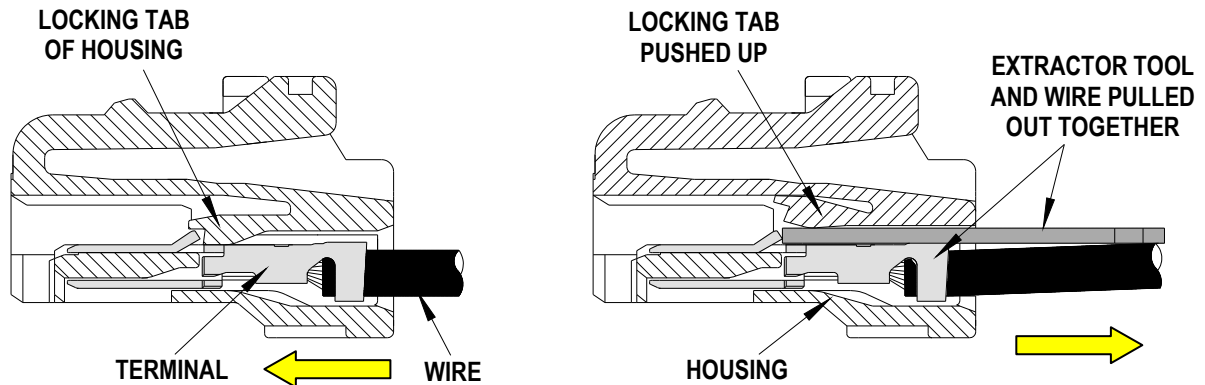

Figure 6
2. Insert the Extractor Tool into the slot above the terminal in the connector housing as shown in Figure 6.